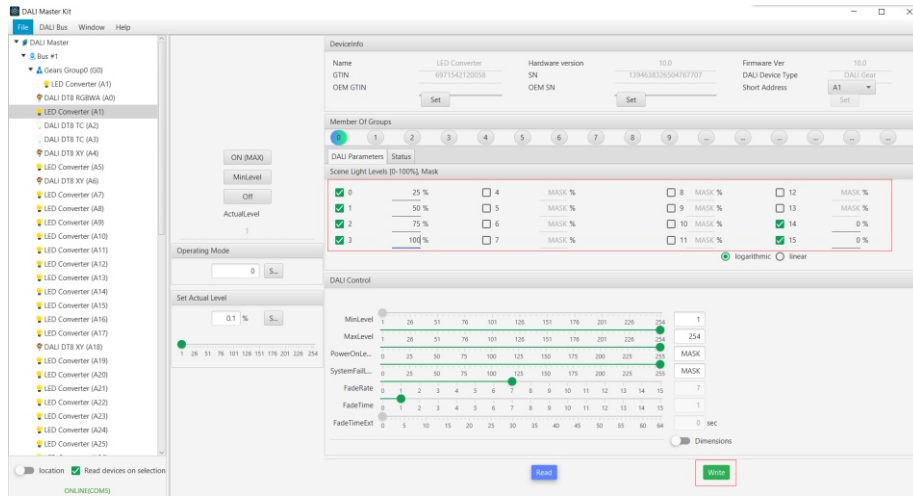

Figure 10 DALI Scene Configuration for DT6 Device
4.1. Click to choose a DALI Device under Bus #1 on the left column of main window, the DALI configuration parameters of this device will be shown on the right side. The configuration item “Scene Light Levels” under “DALI Parameters” is to configure maximum 16 DALI scenes of a DALI device. Click to tick the scene numbers, then the scenes can be configured as shown in Figure 10.
4.2. For DT6 device, just brightness level should be set for a DALI scene. After setting the parameter of the scenes, Click on “Write” button on bottom right of the window to write the scenes to the DALI device as shown in Figure 10.